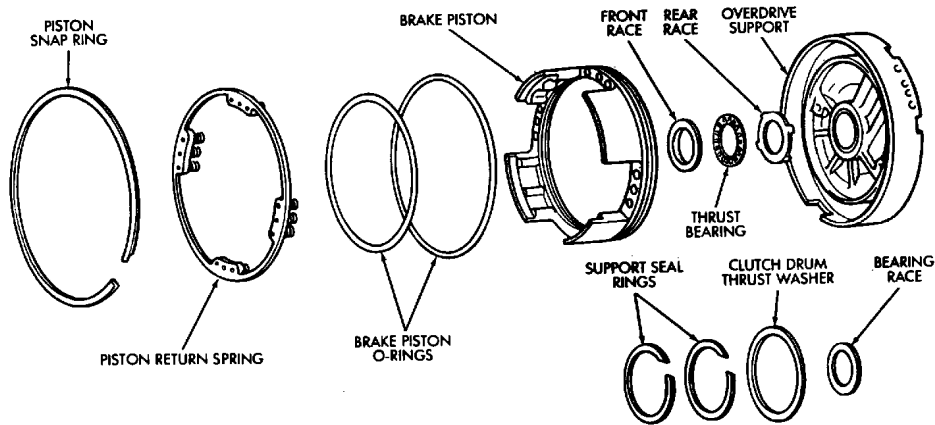

Fig. 1 Overdrive Support Components
- (6) Mount support in direct clutch and remove brake piston with compressed air. Apply air to same feed hole used when checking piston operation.
- (7) Remove and discard support O-rings (Fig. 1).